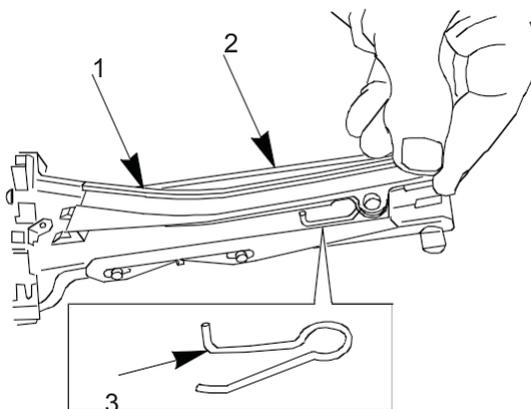

Figure 7. Feed Lever, Spring, Cover Assembly.
10. Lift feed lever (Figure 7, Item 1) up and out from rear. Separate spring (Figure 7, Item 3) from cover assembly (Figure 7, Item 2).
11. Visually inspect spring (Figure 7, Item 3) for bent or broken legs and replace if damaged.